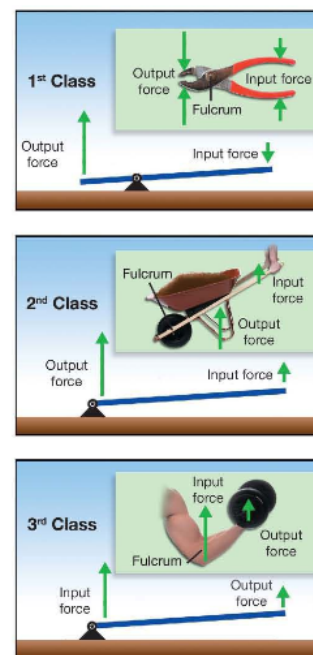

Figure 7.5: These diagrams show the three classes of levers. What is the mechanical advantage of each of these levers: 1, > 1, or < 1?
- The three classes of levers** Pliers, a wheelbarrow, and your arm each represent one of the three classes of levers. These objects all look different, so how are they similar? For starters, they all accomplish a task with one movement. They also all operate using a fulcrum and lever arms. Each class of levers is defined by the location of the input and output forces relative to the fulcrum (Figure 7.5 and Table 7.1).